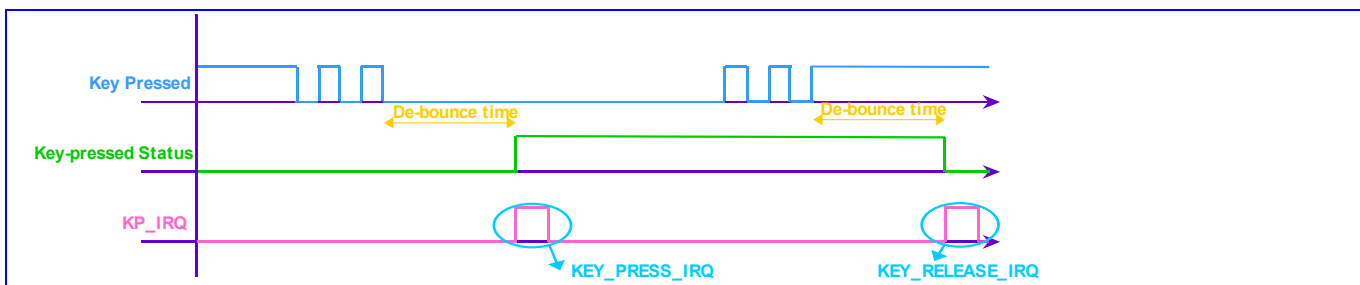
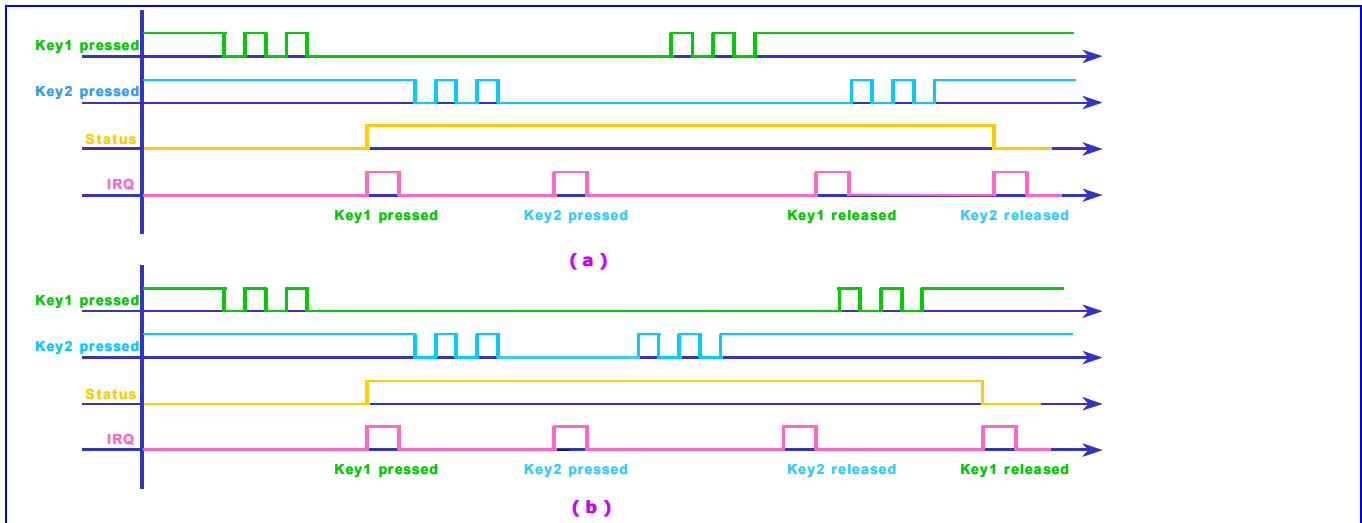
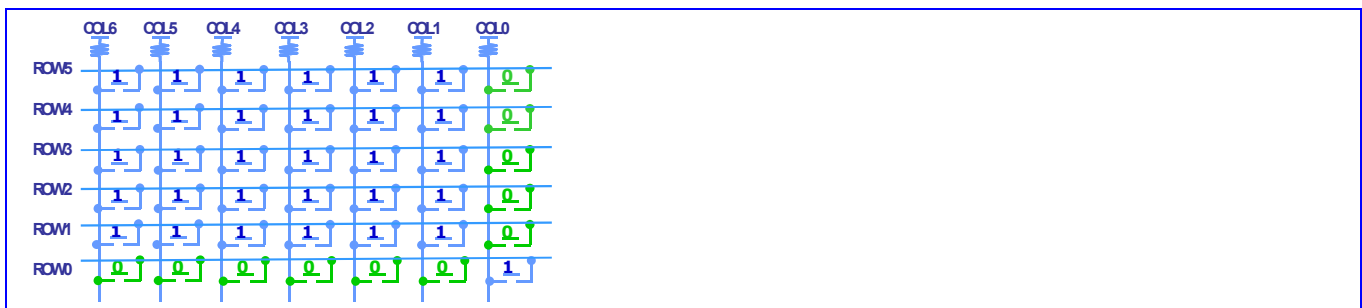

Figure 44 One key pressed with de-bounce mechanism denoted
Figure 45 (a) Two keys pressed, case 1 (b) Two keys pressed, case 2
Figure 46 11 keys are detected at the same time
This keypad can detect one or two key-pressed simultaneously with any combination. **Figure 44** shows one key pressed condition. **Figure 45(a)** and **Figure 45(b)** illustrate two keys pressed cases. Since the key press detection depends on the HIGH or LOW level of the external keypad interface, if keys are pressed at the same time and there exists a key that is on the same column and the same row with the other keys, the pressed key cannot be correctly decoded. For example, if there are three key presses: key1 = (x1, y1), key2 = (x2, y2), and key3 = (x1, y2), then both key3 and key4 = (x2, y1) are detected, and therefore they cannot be distinguished correctly. Hence, the keypad can detect only one or two keys pressed simultaneously at any combination. More than two keys pressed simultaneously in a specific pattern retrieves the wrong information. If these specific patterns are excluded, the keypad-scanning block can detect 11 keys at the same time, shown in **Figure 46**.